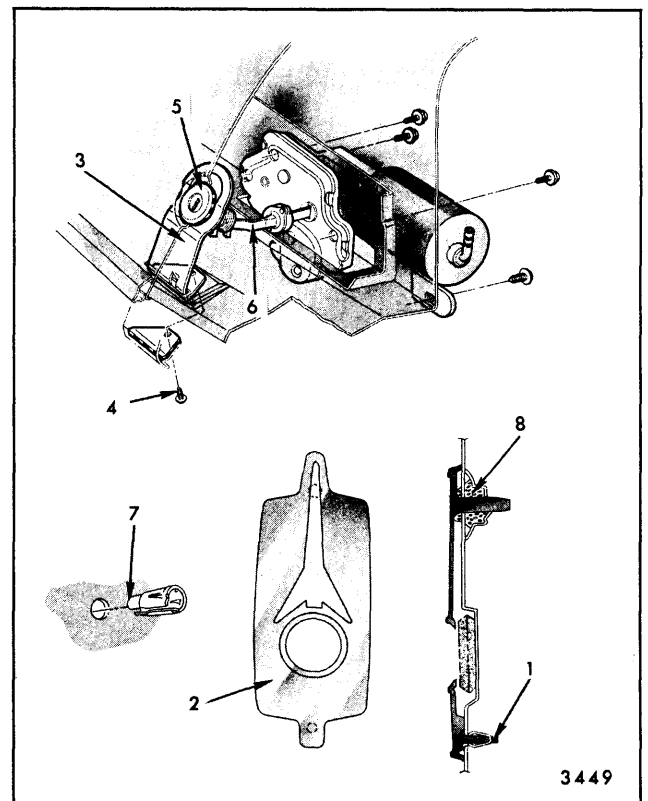

Fig. 8-20—Rear Compartment Lock Cylinder and Emblem Assembly - Oldsmobile "B" Styles
4. On Oldsmobile "B" styles, remove emblem stud clips illustrated in Section "B-B" of Figure 8-20. Remove emblem and then lock cylinder retainer. As shown, a service clip is available for repair of broken stud clips. This clip is available as a service part. Prior to reinstallation of emblem stud clips, medium-bodied sealer must be applied around lock stud to prevent waterleaks.